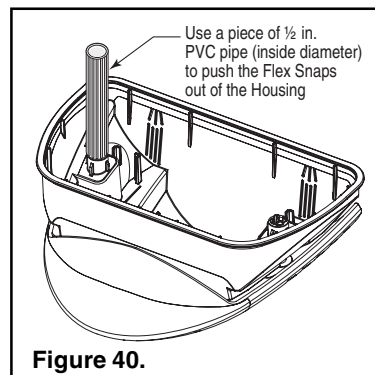

Figure 40.
8. If you need to replace the bumper, turn the housing/bumper assembly upside down and remove the two flex snaps holding the bumper to the housing, (see Figures 40 & 41). Use a piece of ½ in. (inside diameter) PVC pipe to slide over the flex snap ends to squeeze the flex snaps together so they can be slid out of the housing. Use a pair of pliers to pop the flex snaps off of the bumper.